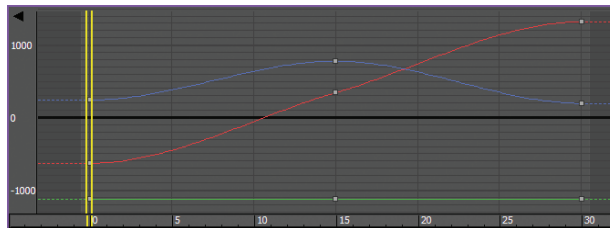

FIGURE 6.4 The initial curves for the knife
8. Hold the Ctrl key and select all three tracks to display their curves (if they are not already selected), shown in Figure 6.4.